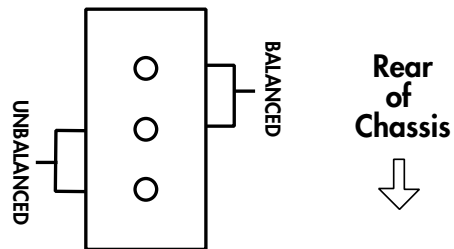

Figure 3.1: Typical Balanced/Unbalanced Jumper Block
3. Observing the positions shown in Figure 3.1 (and marked on the circuit board), remove the jumper and reinstall it in the unbalanced position.